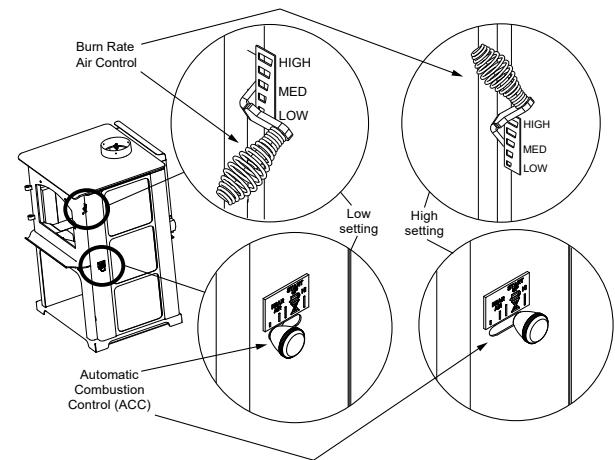

Figure 9.1
The next stage of burning, the secondary stage, is the period when the wood gives off flammable gases which burn above the fuel with bright flames. During this stage of burning it is very important that the flames be maintained and not allowed to go out. This will ensure the cleanest possible fire. If the flames tend to go out, it is set too low for your burning conditions. The air control located at the upper right hand corner is used to adjust for burn rates. This is called the Burn Rate Air Control (Figure 9.1).
This air supply enters at the upper front of the firebox, near the top of the glass door. This preheated air supplies the necessary fresh oxygen to mix with the unburned gases, helping to create second, third and fourth combustions. This air is regulated by the Burn Rate Air Control. When the control is moved all the way up it is on the High setting and when moved all the way down it is on the Low setting (Figure 9.1).
Open both Burn Rate Air Control and ACC systems fully. To do this with the Burn Rate Air Controls push spring handle up to high. For the ACC timer system push knob towards back of appliance until the knob is located under the high position (Figure 9.1).
To maximize heat output with the ACC timer System or also known as high burn push the ACC Air Control lever towards the back of the appliance and leave. This combined with having the main burn rate control lever pushed up will deliver the most amount of air needed to achieve the highest amount of heat output (Figure 9.1).
- Then activate the ACC timer system by pushing the knob all the back toward the appliance to “HI” then pull forwards towards the front of the appliance until the knob stops (Figure 9.1 on page 9).